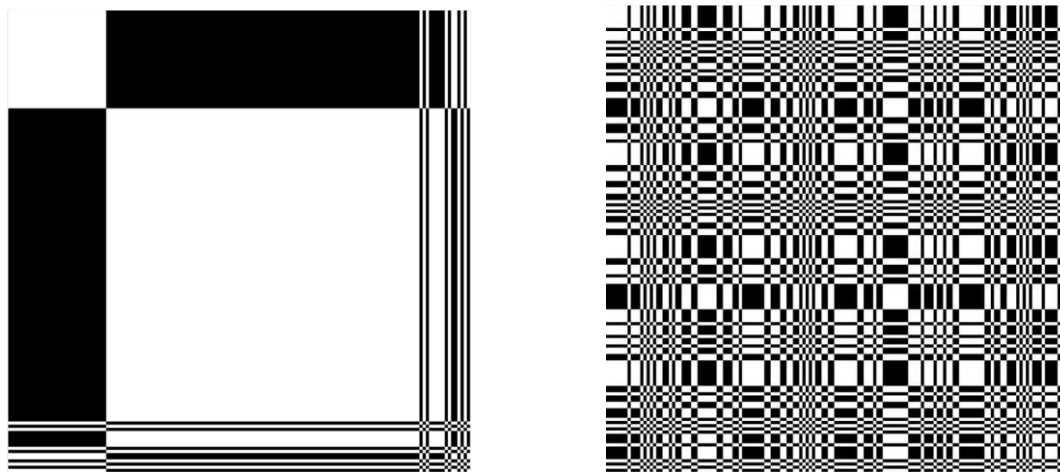

Figure 4.5(b) The image file of CorMap of the fitting results
- c. The MATLAB file of fitting results, including the radius, distribution, volume fraction, and the background signal of the sample system, as shown in Figure 4.5(c).